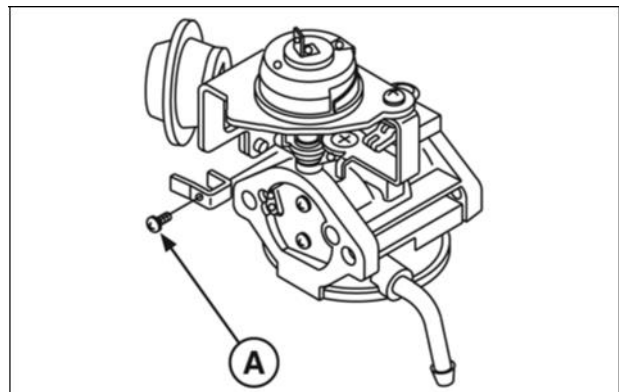

Figure 47
11. Assemble choke pre-load lever (A, Figure 47) to choke shaft.